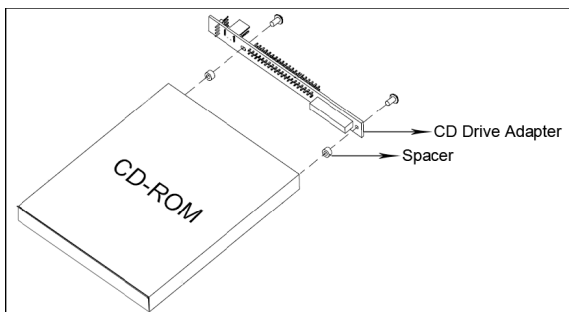

Figure 3-5: CD Drive Adapter Installation
Step 3: Insert two retention screws and secure the adapter to the CD drive (**Figure 3-5**)